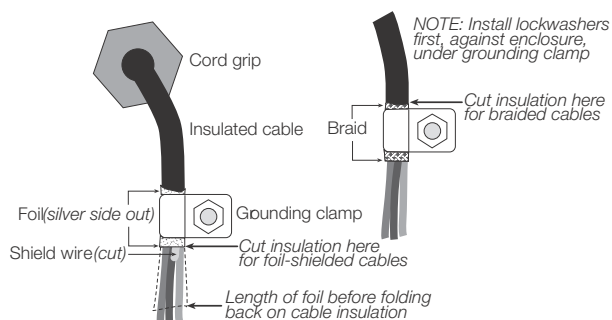

Figure 2-7. Grounding Clamp Attachment for Foil-Shielded and Braided Cabling
- For cables with foil shielding, strip insulation and foil from the cable half an inch (15 mm) past the grounding clamp (see Figure 2-7). Fold the foil shield back on the cable where the cable passes through the clamp. Ensure silver (conductive) side of foil is turned outward for contact with the grounding clamp.
- For cables with braided shielding, strip cable insulation and braided shield from a point just past the grounding clamp. Strip another half inch (15 mm) of insulation *only* to expose the braid where the cable passes through the clamp (see Figure 2-7).